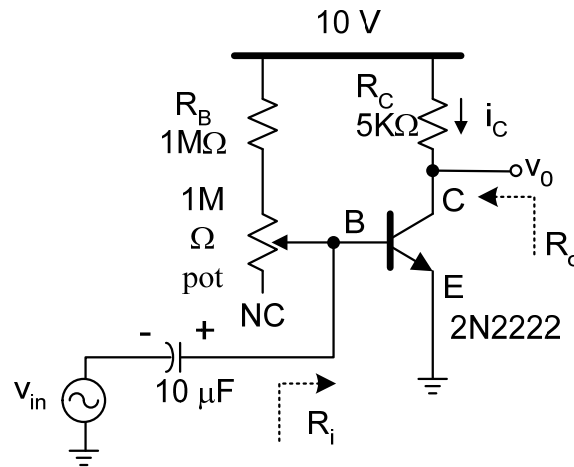

Fig. 2. BJT transistor circuit 1
1. Assume the transistor you will use has a  $\beta$  of 155 and  $V_{BE(on)}=0.65$  V. For the circuit in Fig. 2, calculate the overall resistance ( $R_B$  and pot) such that  $I_C=1$  mA.
5. Construct the circuit in Fig. 2 in Pspice and find the small signal parameters  $g_m$  and  $r_{ce}$ . Compare SPICE results and hand calculations. Explain the differences, if any.
2. Connect the circuit in Fig. 2. The power supply is 10V.